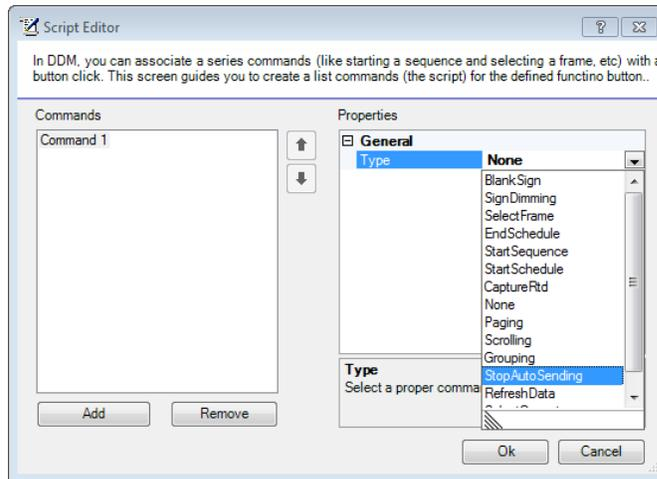

Figure 10: Script Editor Window
5. Under *Type*, click the arrow to choose from a list of command types (*Figure 10*). Multiple command types may be assigned to a single button as long as the actions do not negate each other.